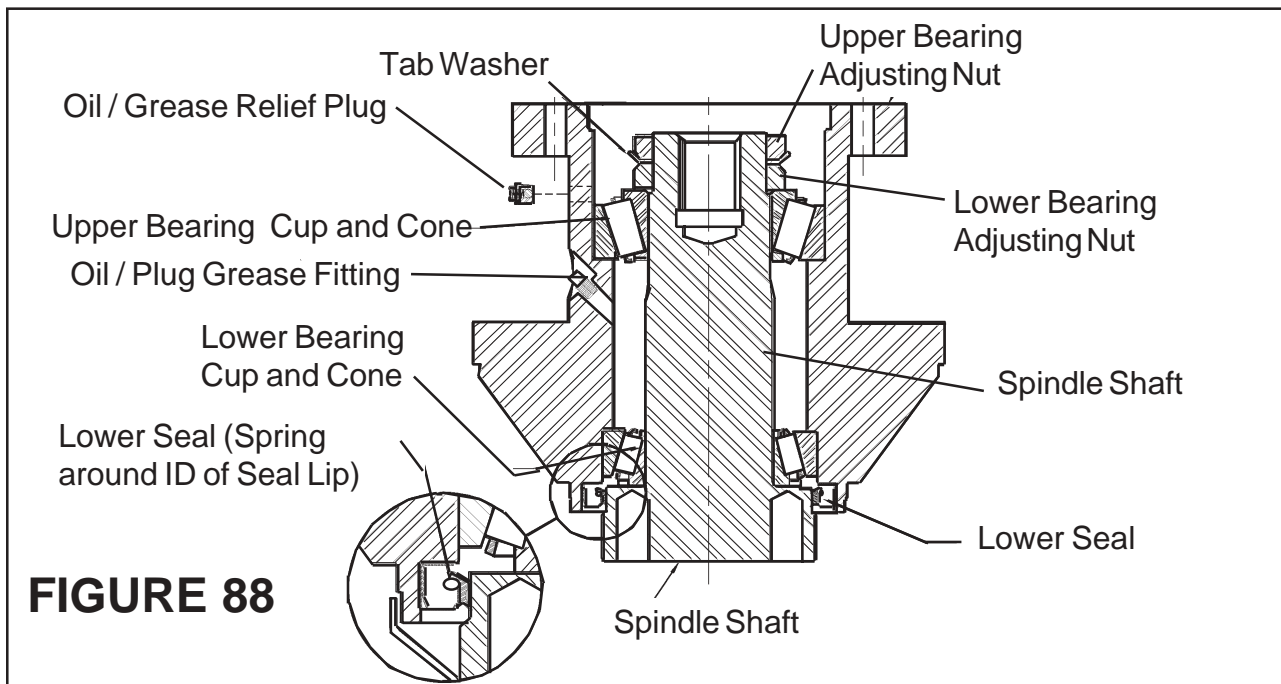

FIGURE 88
1. Spindle Re-Assembly. (See Figure 88) Make sure Housing is Clean and in Good Shape.